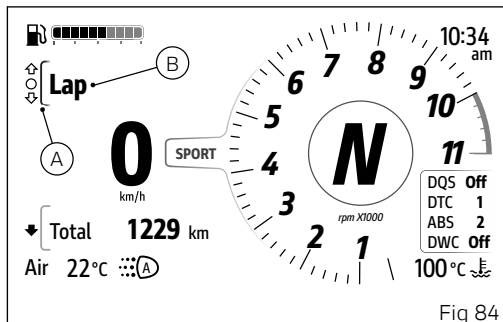

Fig 84
- Select the Interactive Menu (A, Fig 84) by pressing and holding button (1) pressed for a long time.
- Use buttons (1) and (2) to select item "Lap" (B, Fig 84) and press the ENTER button (3).